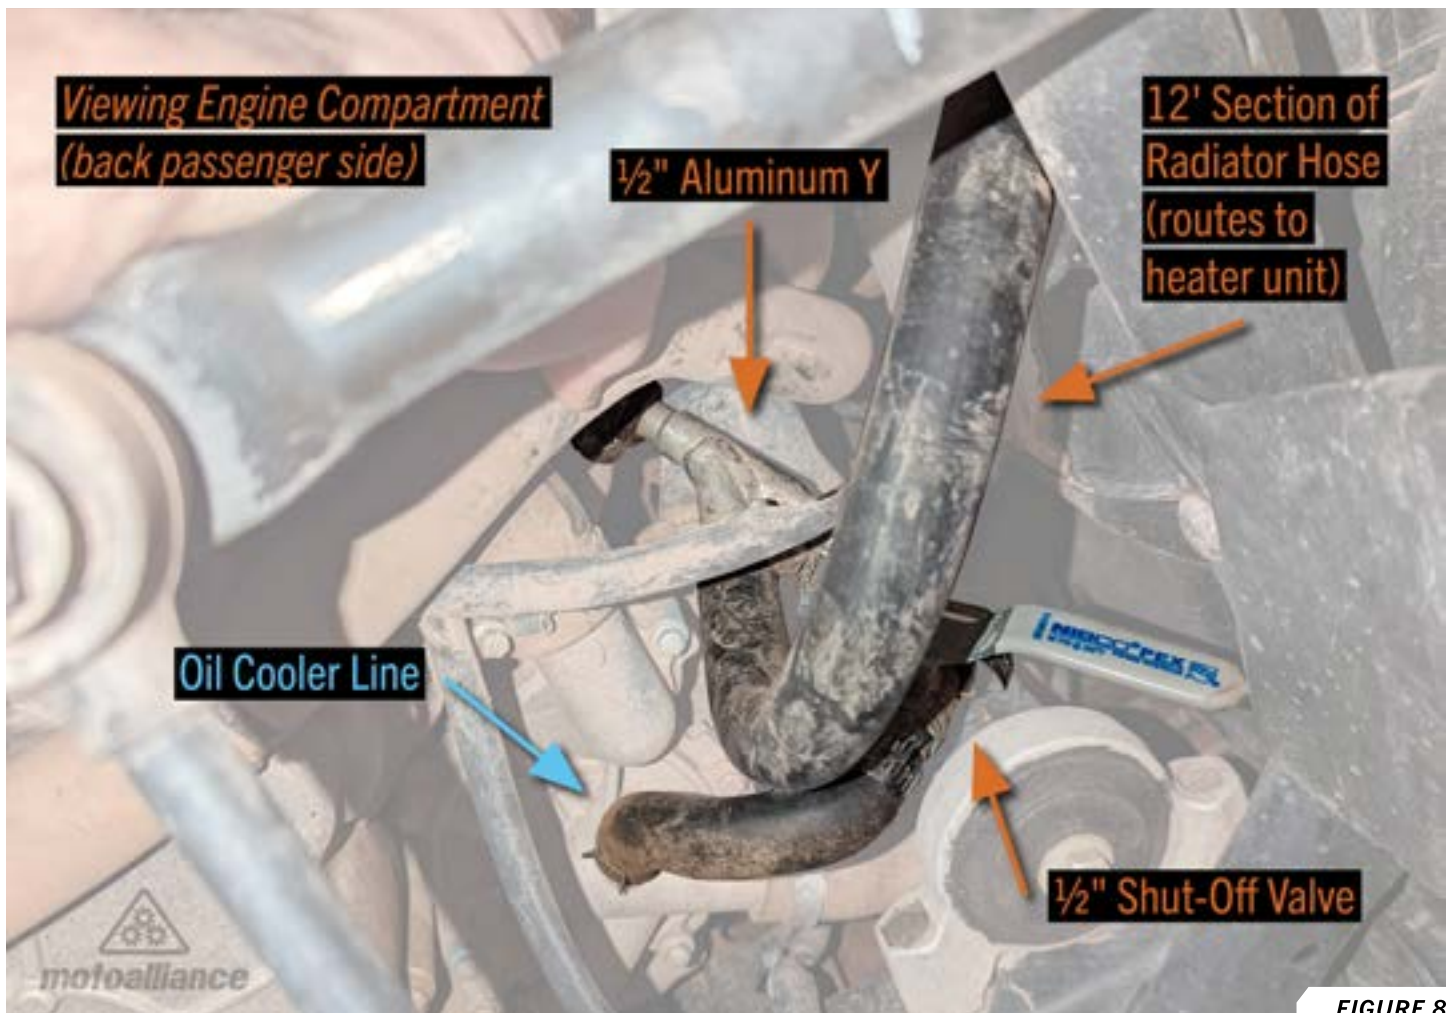

FIGURE 8
13. Cut the oil cooler line and insert the ½" aluminum Y with the branch facing the passenger rear wheel well. Secure the oil cooler line with the #10 hose clamps. *FIGURE 8*
16. Locate an accessible spot along the oil cooler line on the side of the Y that the branch points to. Cut the line, insert the ½" shut-off valve, and secure using #10 hose clamps. *FIGURE 8*